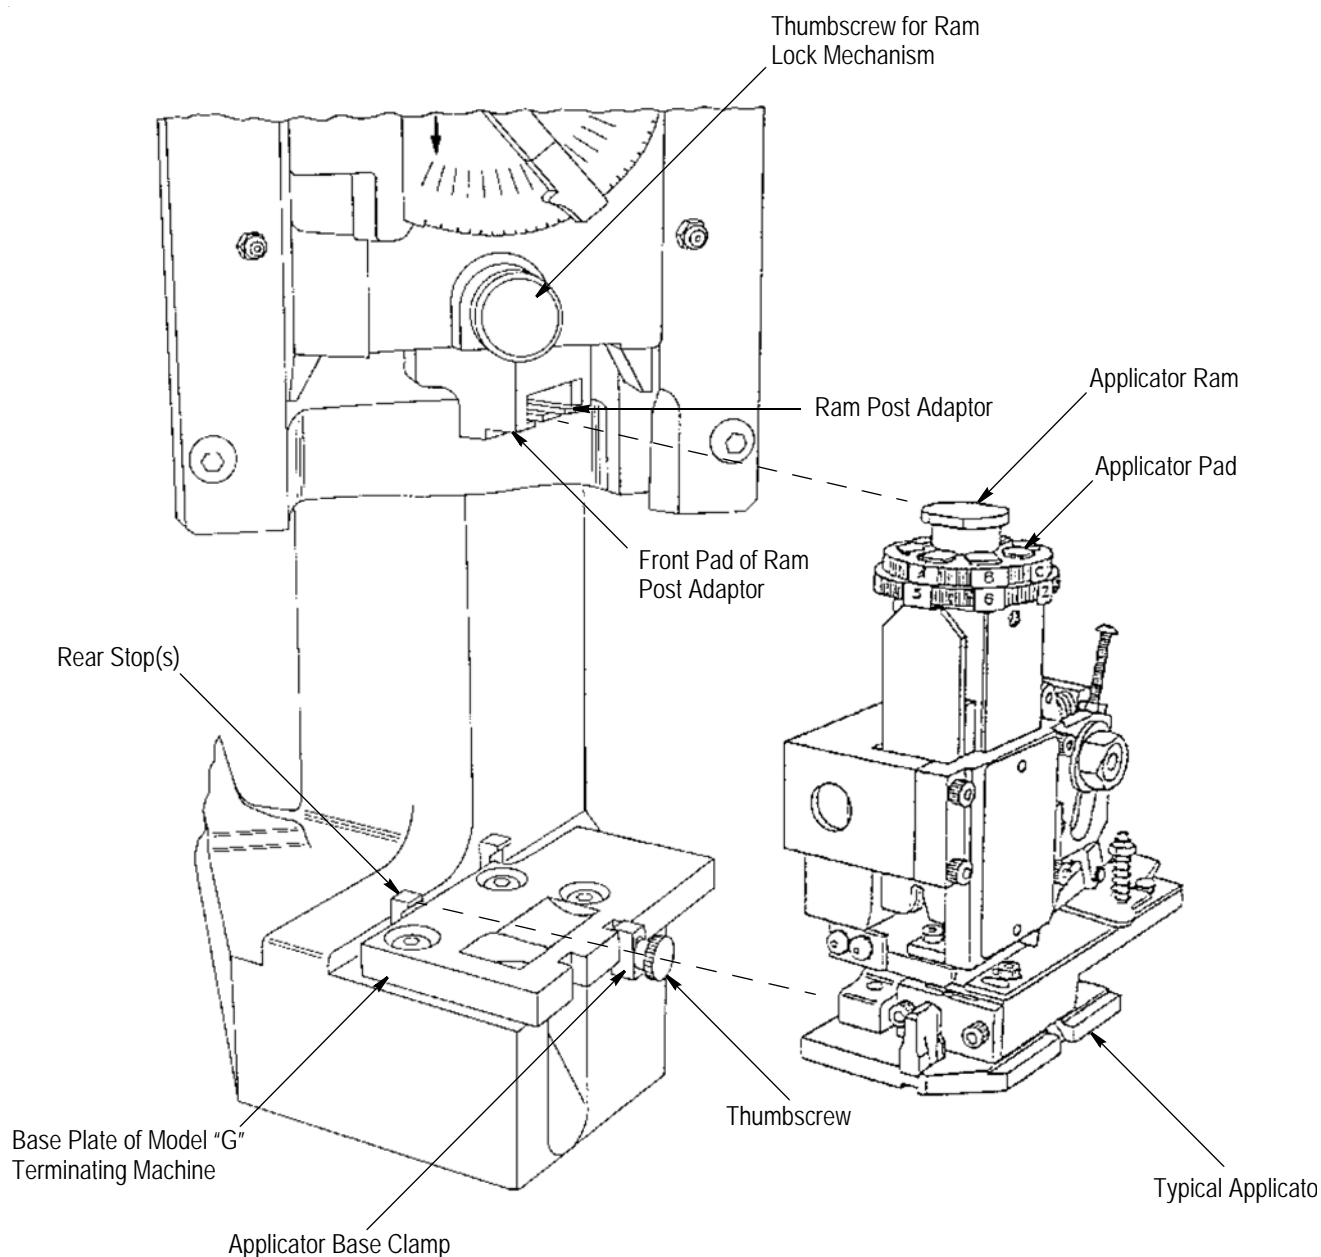

Figure 10
3. Place the applicator onto the base plate of the terminating machine. Slide the applicator back until the two notches in the applicator base plate engage the rear stops. At the same time, guide the applicator ram into the ram post adaptor, making sure the applicator ram engages the ram lock mechanism. See Figure 10.
5. Set the crimp height and insulation crimp discs so that the letters and numbers on the applicator pad align with the front pad on the ram post adaptor. See Figure 10.
6. Secure the applicator ram to the ram post adaptor by turning the thumbscrew for the ram lock mechanism *clockwise* until tight. See Figure 10. If the applicator is an air-feed type, connect the air lines to the valve located on the right side of the terminating machine.